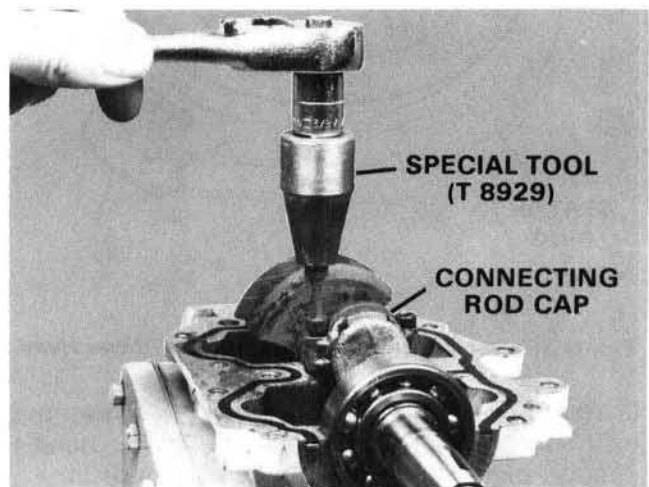

Figure 16. Removing Connector Rod Caps.
C. Remove screws securing connecting rod caps to connecting rods using special tool T8929. Figure 16.